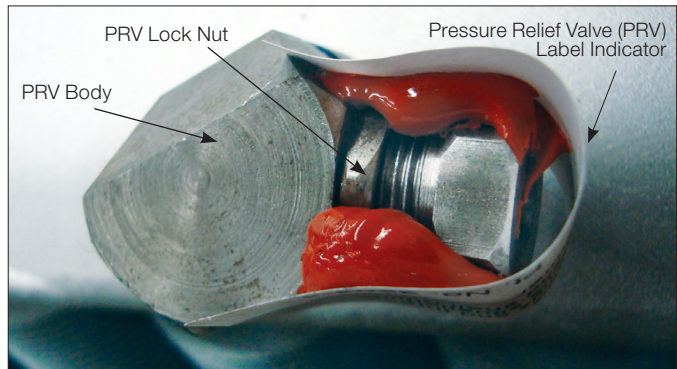

Figure 1
- Pressure relief device for signs of leakage. See Figure 1, page 5 and refer to Annual, page 4 (Fluid leakage), for further instructions.
9. Venting pressure of the pressure relief valve (PRV) is factory set. Do not tamper with lock nut. (See Figure 1, page 5.)